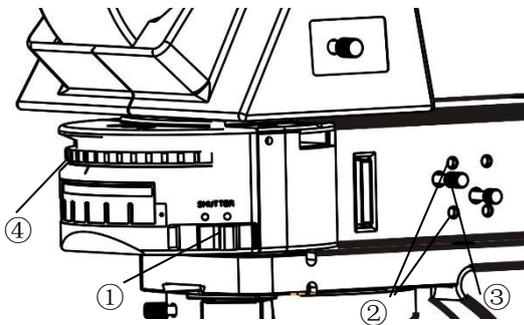

Fig.22
3-18 Reflective optical path choice (Fig.22)
Rotate the splitter chamber (Num.④, Fig.22) to the spectroscopy assembly room according to the requirements of the required observation path.
The field stop adjusts the lighting area to produce high-contrast images. According to the objective lens used, Adjust the aperture knob of the field (Num③, Fig22) of view of the reflecting illuminator until the aperture image is outside the field of view, to screen out unnecessary light.